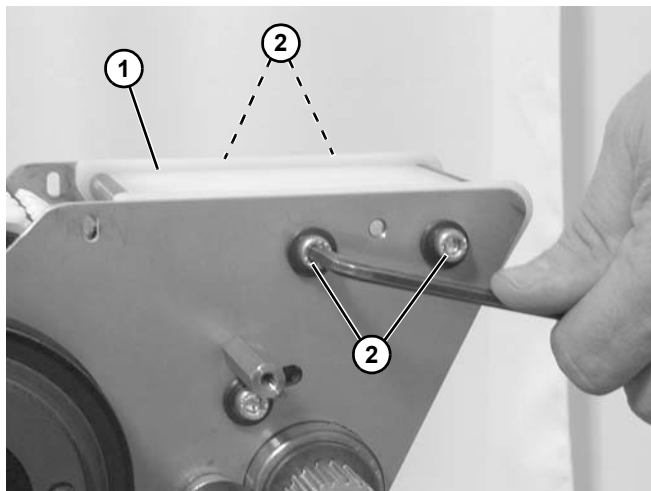

Figure 172
5. Install wear bar assembly (**Figure 172, item 1**) with four socket head screws (**Figure 172, item 2**).